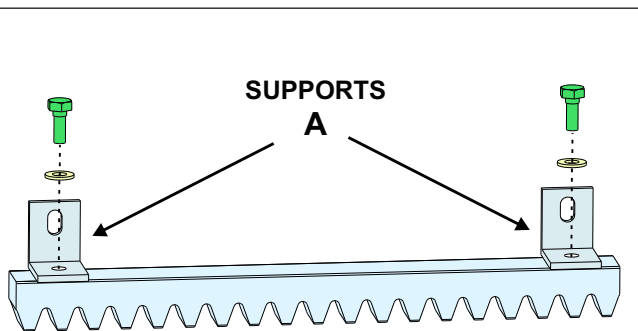

Fig. 13
- 7.2. Fix the two metal supports «A» on each gear rack element by the use of the special screws - Fig. 13